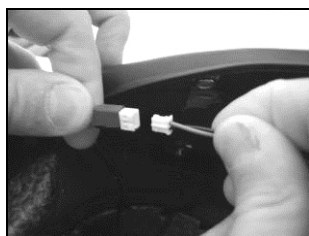

Fig. 23
- Connect the battery to the wiring system (Fig. 23).